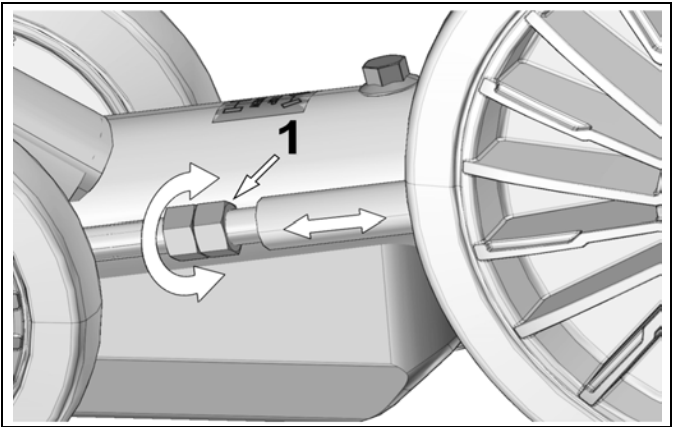

Figure 23
Loosen jam nut and turn adjusting nut (1) to set track tension. See Figure 23.